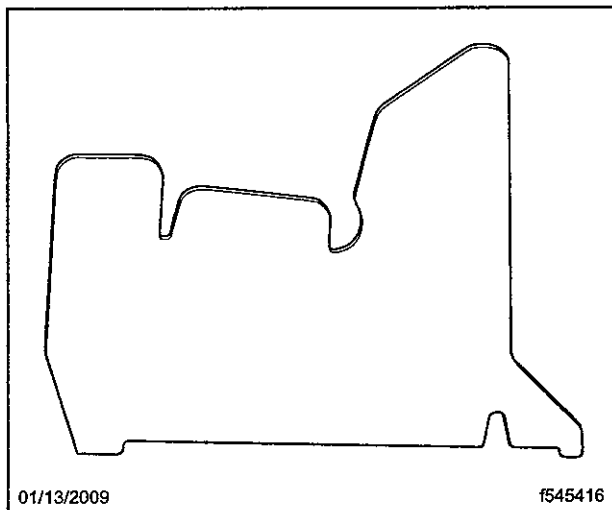
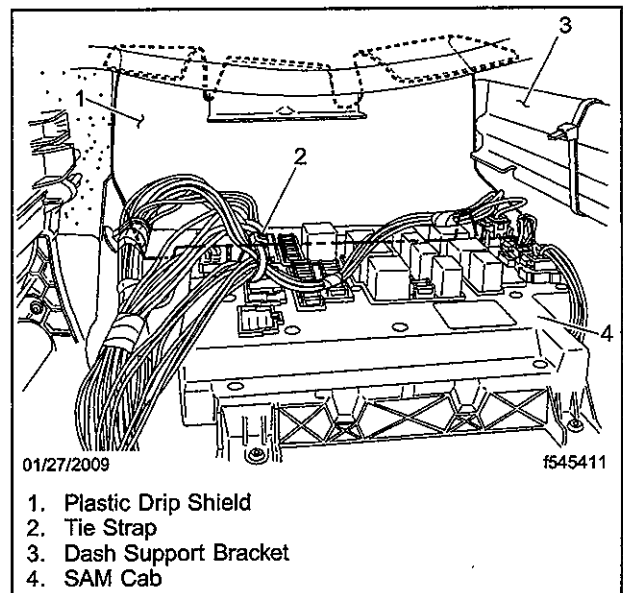

Fig. 5, New Drip Shield
Fig. 6, Drip Shield Installed and Wiring Tie-Strapped
11. Install the new plastic drip shield behind the SAM Cab, between it and the frontwall. See Fig. 5 and Fig. 6. Make sure the bottom edge of the shield clears the forward edge of the SAM Cab. Bend the shield to fit the area. It is to fit behind the defroster duct and (if present) the Z-bracket.